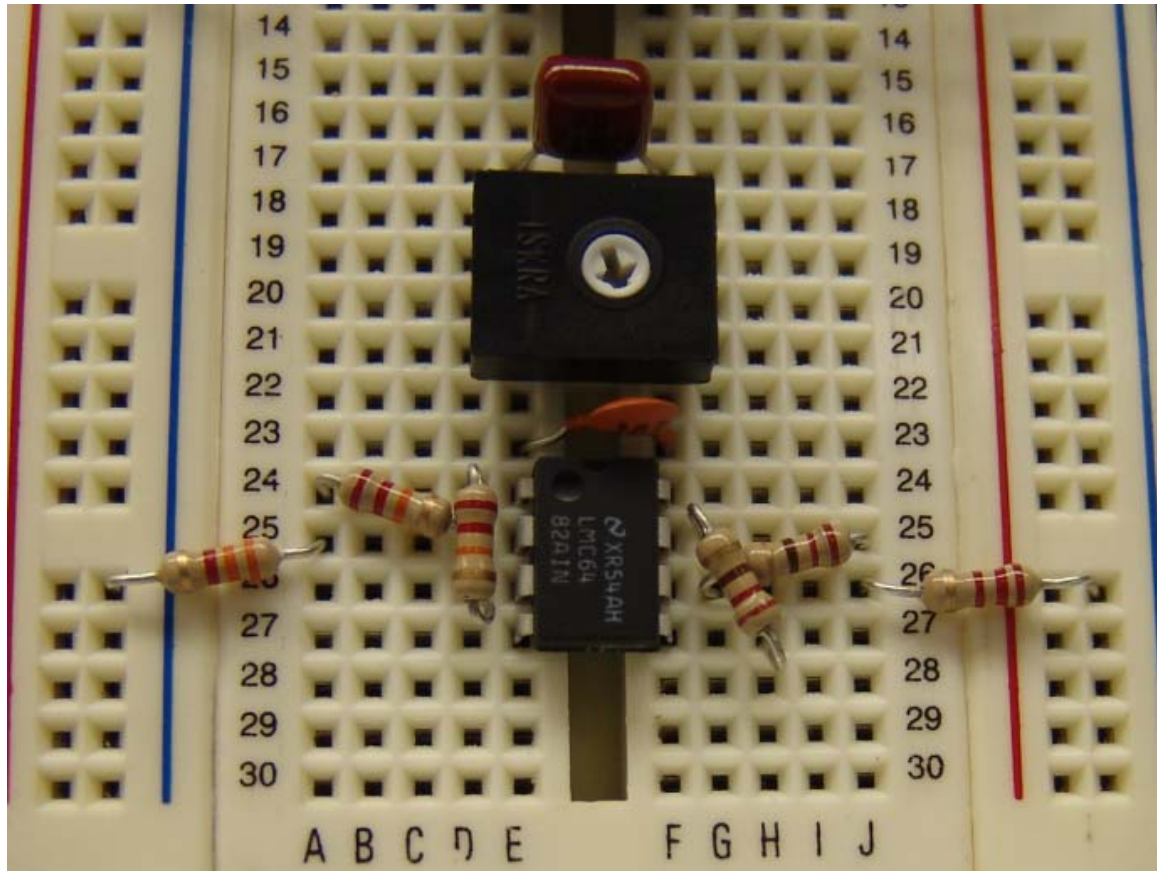

Figure 14. Capacitor C2 (100 nF) inserted across E17 and F17.
10. Next, insert the 100 nF capacitor across E17 and F17. Refer to figure 14.